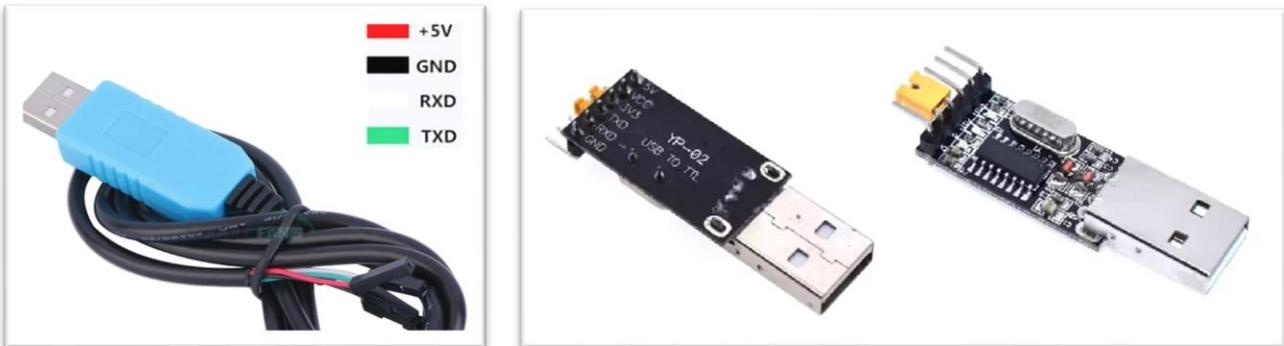

Figure 4
- For debugging purposes, you are given a USB-UART cable or a USB-to-TTL module to connect the BT module to a PC. See **Figure 4**.